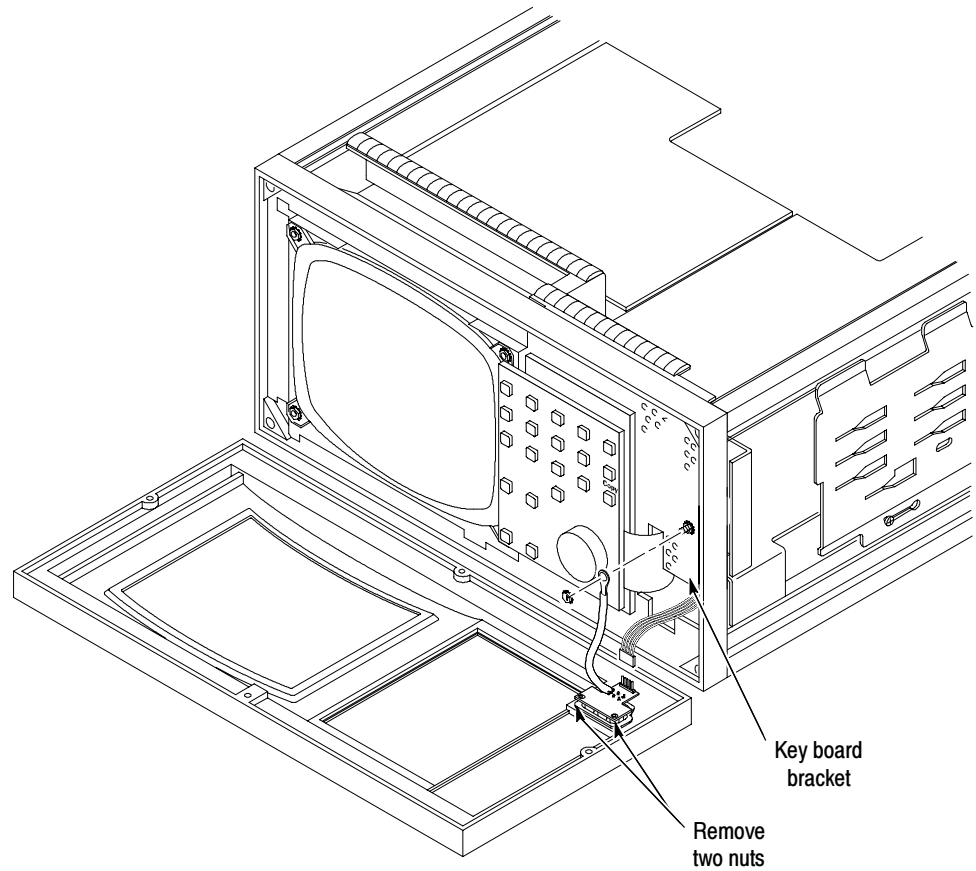

Figure 3: Disconnecting the STBY/ON switch
- a. From the circuit side of the STBY/ON switch, remove the two nuts holding the switch assembly to the bezel. See Figure 3.
- d. Connect the ground strap ring from the STBY/ON switch to the keyboard bracket. See Figure 3 on page 8. Reinstall and tighten the nut that holds the ground strap ring in place.